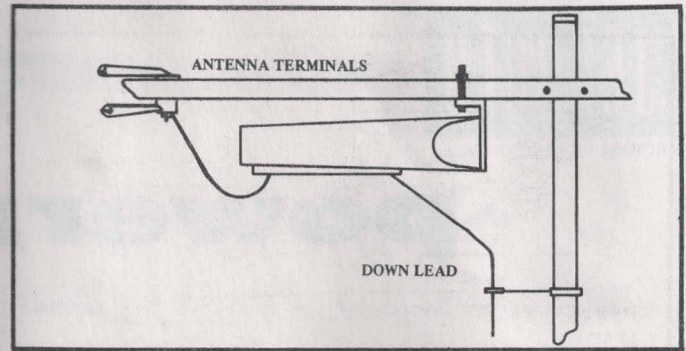

FIGURE 2 MODEL 4283 MOUNTED ON ANTENNA BOOM
1. Assemble the top bracket of the Model 283 to the antenna boom as shown in Figure 2, using the "U" bolt and self-locking hex-nuts supplied.